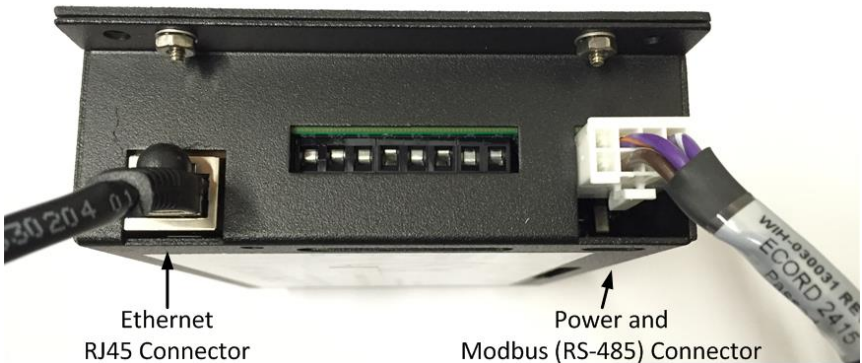

Figure 2.40. - SolrenView Data Logger Ethernet, Modbus and Power Connections.
3. Connect the supplied SolrenView data logger power and Modbus cable to the logger as shown in Figure 2.40.
2. Connect the Ethernet connection to an active internet Gateway as shown in Figure 2.40. The SolrenView data logger will go through TCP/IP DHCP discovery when it is turned on and attempt to connect to the SolrenView Monitoring servers.